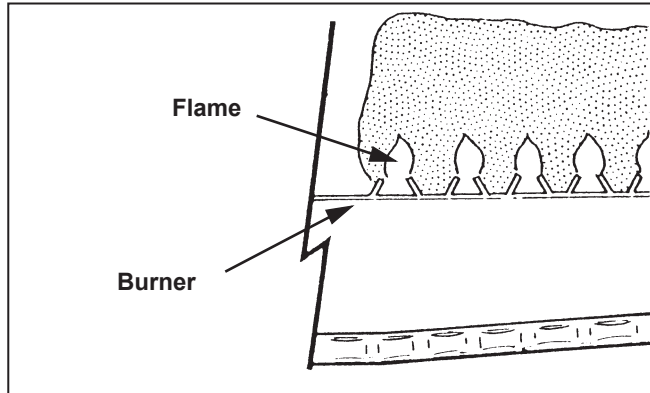

Figure 22. Main Burner Flame
- b. 25 mm to 100 mm above burner surface. See Figure 22.